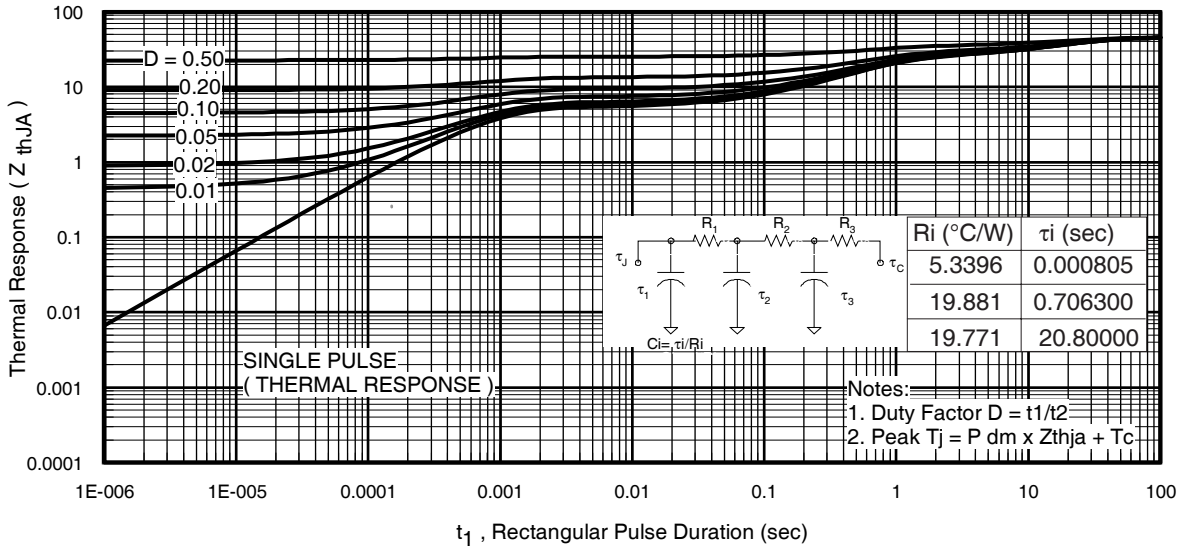

Fig 11. Maximum Effective Transient Thermal Impedance, Junction-to-Ambient
- ① Repetitive rating; pulse width limited by max. junction temperature. (See fig. 11).
- ② Limited by T_{Jmax} , starting $T_J = 25^\circ\text{C}$, $L = 4.8\text{mH}$
$Z_{thJC}(D, t_{av})$ = Transient thermal resistance, see figure 11)